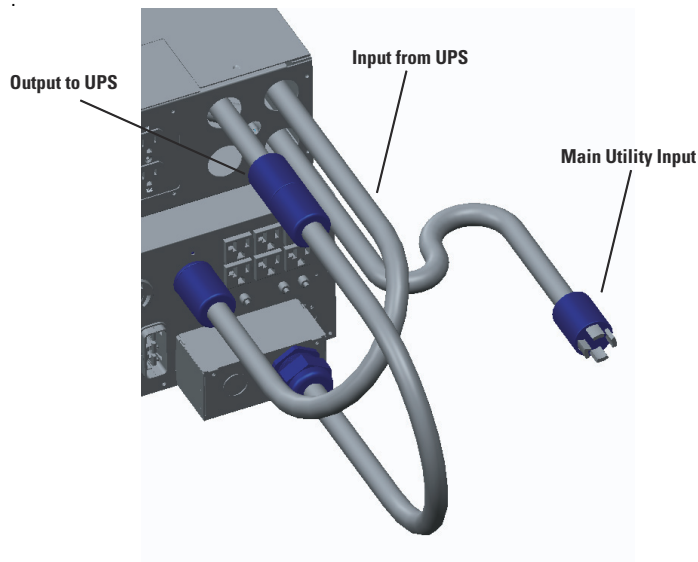

Figure 11. Connect the UPS to the BPM
7. Connect the UPS to the BPM as shown in Figure 11